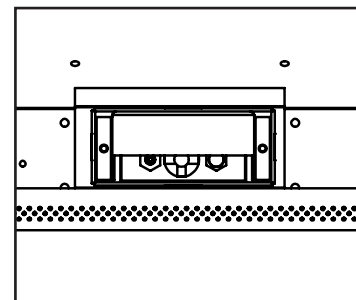

Figure 15. Ignitor assembly beside the burner.
8. Reinstall the burner, brick panels, log set, embers, and glass door. Also refer to SECONDARY INSTALLATION - INSTALLING LOG SET AND EMBERS in your Owner's Manual. When re-installing the burner, ensure that the burner to pilot hood relationship is similar to what is shown in Figure 15. On some units you will need to pay special attention when installing the burner that the venturi adjustment rod is properly installed into the venturi adjustment piece welded to the burner venturi tube